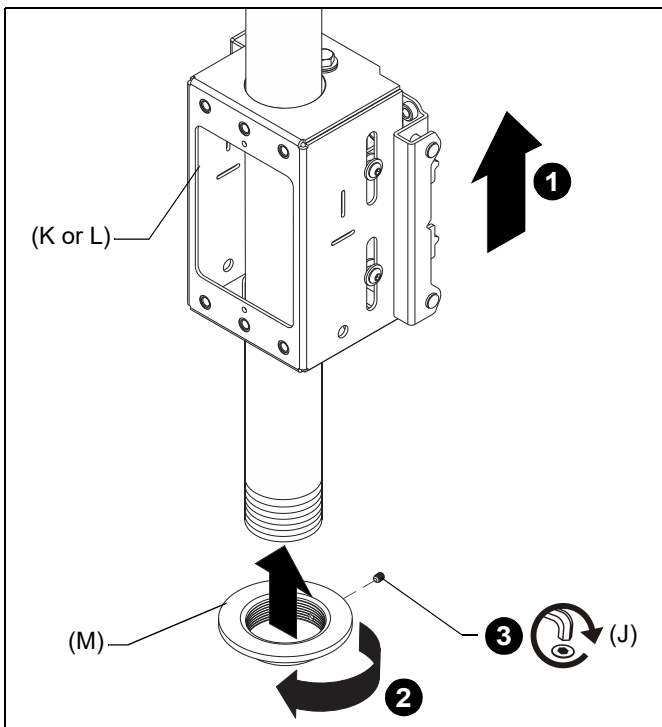

Figure 1
- Slide ceiling head (K or L) up from below onto installed column (not included). (See Figure 1)
- Thread bottom coupling (M) onto installed column until tight, with a minimum of four threads engaged. (See Figure 1)
- Install and tighten one 10-24 x 1/4" set screw (J) into bottom coupling (M). (See Figure 1)